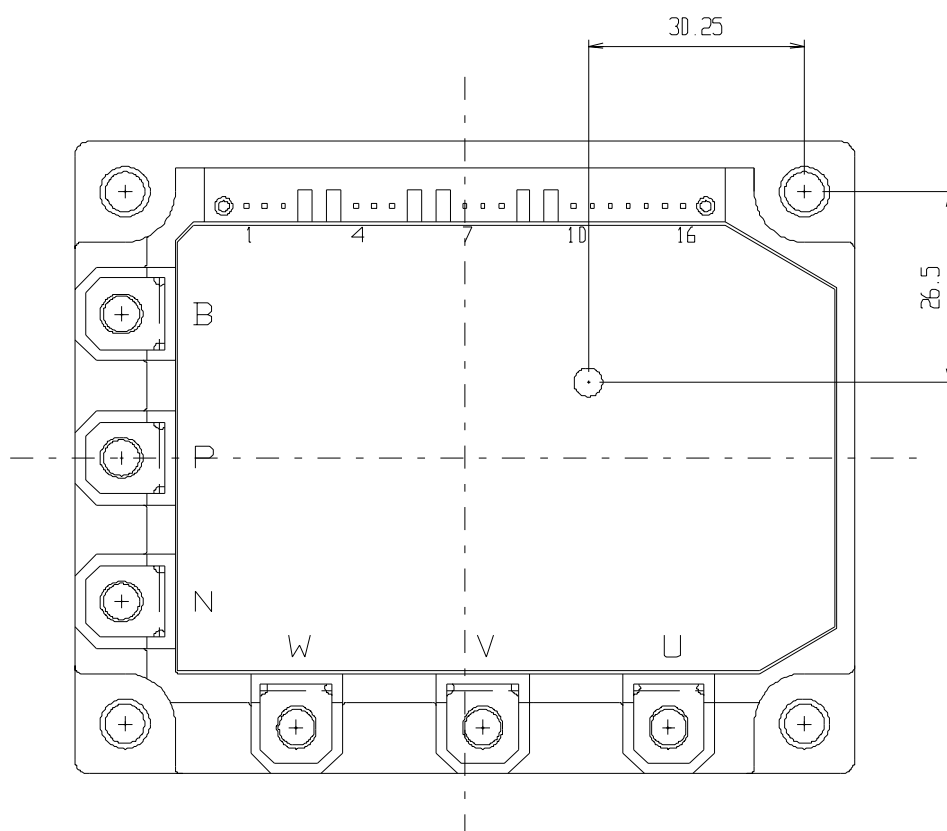
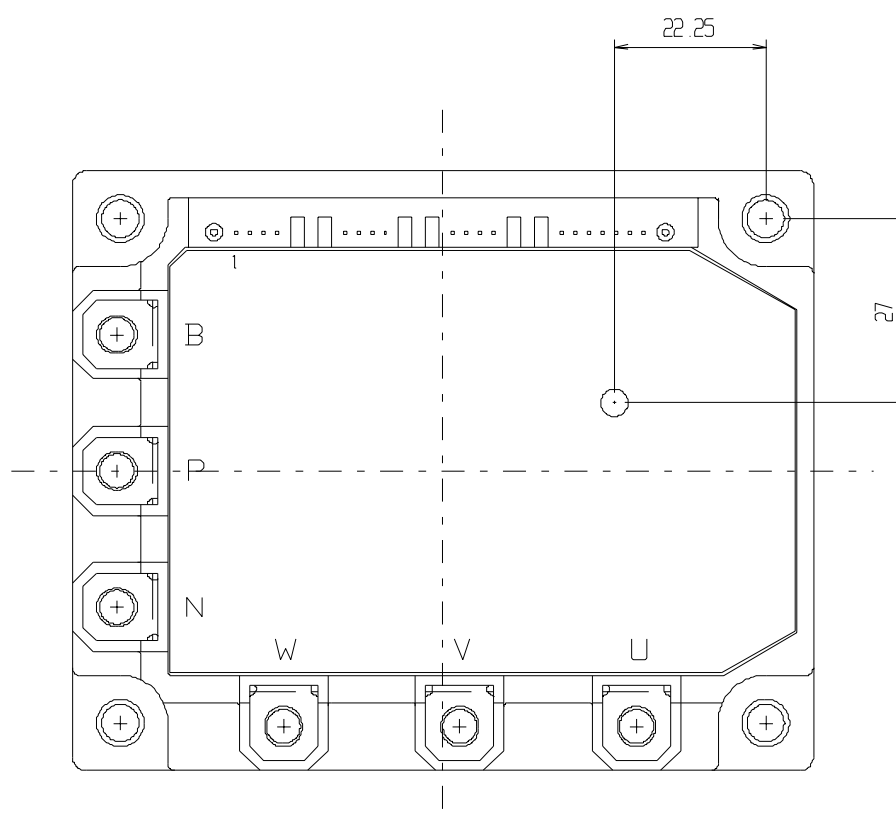

Fig. 3-3 TcOH Detection Position (P610)
Fig. 3-6 TcOH Detection Position (P621)
- The TcOH detection positions are shown in Fig.3-3 to Fig.3-6.